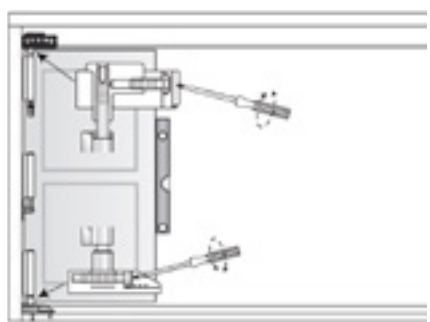

Figure 39: Horizontal adjustment roller locations
1. With the doors open, using a flat headed screwdriver adjust the horizontal screws found in the top and bottom rollers (as shown in Figure 39).